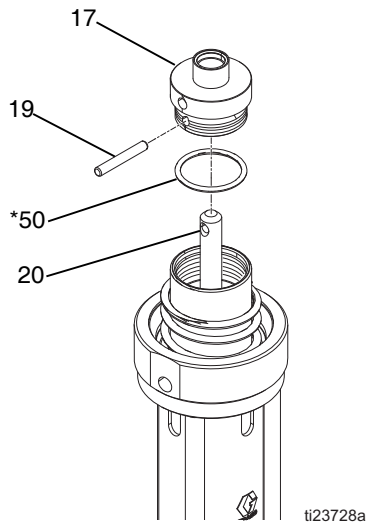

FIG. 14
- Remove dowel pin (19) and take piston cap (17) off transfer shaft (20). Remove o-ring (50*) from piston cap. Inspect all parts for damage. See FIG. 14.